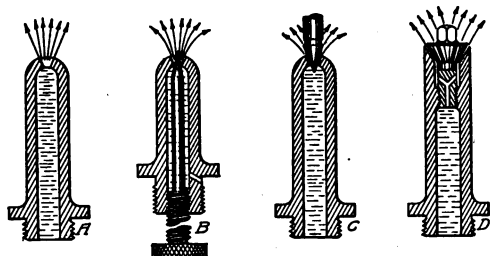

Fig. 82. The Four Usual Shapes of Gasoline Needle Valves and Spray Nozzles
*Simple Vertical Tube.* In general, practically all these can be divided into four groups, illustrated in Fig. 82. The one at *A* is a simple round vertical tube with an opening in the top, through which the liquid may pass out. It does not alter the type if the sides of the opening converge, diverge, or are straight, but it will influence the resulting spray somewhat. Of the twelve makes shown with this type, practically all indicate the opening as straight, but this may be due to the small size of the drawing which does not make the taper apparent.
*Internal Needle Type.* Type *B*, Fig. 82, is similar to the first, except that an adjustable pointed needle is added on the inside. This occupies most of the center space, forcing the liquid to pass out in a smaller circular sheet or stream than would be the case with Type *A*, considering equal-sized holes. In addition, the fact that the internal needle valve may be raised or lowered allows this stream
*External Needle Type.* The third type shown at *C*, Fig. 82, is an inversion of *B* in that the needle is made external and descends from above into the hole in the nozzle. In this form, the shape of the needle point produces the desired diffusion and spraying effect, which accounts for its popularity. Of the models shown herewith, nine are of this kind, one being a modified combination of this form and *A*.
*External Sectional Needle Type.* The fourth form, shown at *D*, is like *C*, except that instead of a needle resting upon the upper surface of the hole and allowing a continuous hollow stream of fuel to flow, a series of holes break up the column into a number of very much smaller columns, each with its own opening. In this form the central member may be movable or not, while the holes may be set at any angle. Of the examples of this form shown in this article, three in all, every one has the holes placed horizontally instead of inclined to a vertical, as shown in Fig. 82. Of these, two show a combination of *B* and *D*. This is an effective combination.